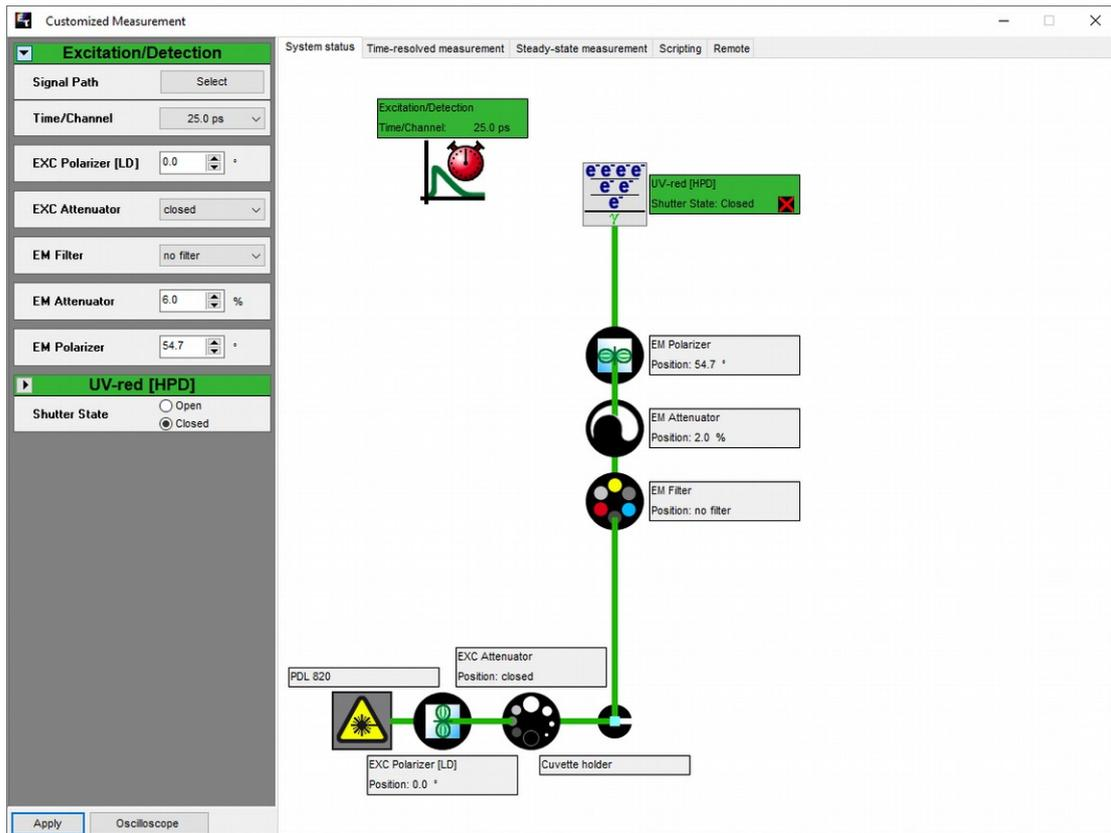

Fig. 29: Example of the block diagram of the FluoTime 250.
- Check that the block diagram in the *System status* window matches the block diagram given in the Appendix (Fig. 29 is provided as an example)